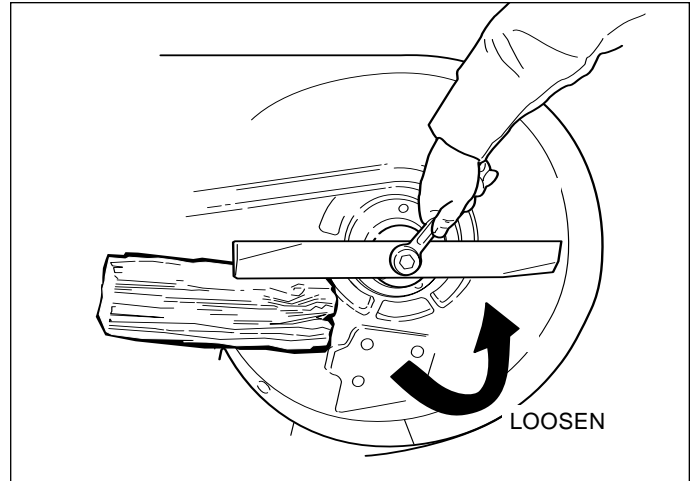

Figure 24. Removing the Blade
3. To remove blade for sharpening, use a wood block to hold blade while removing the blade mounting cap-screw (Figure 24).